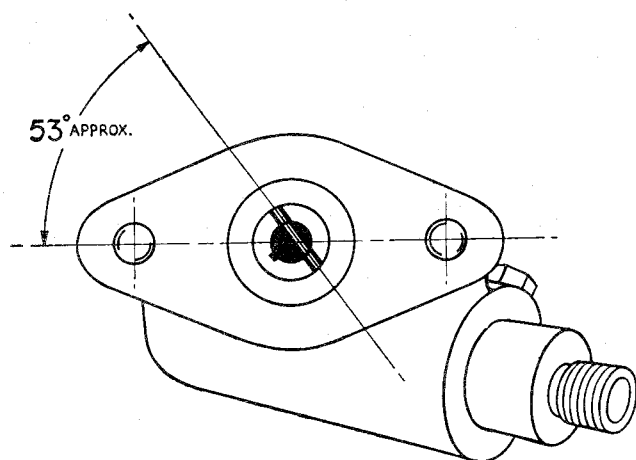

Fig. 16 Position of Slot in Distributor Boss when No. 1 cylinder is at T.D.C. on compression stroke.
- (b) When refitting the oil pump and distributor driving helical gear, ensure that No. 1 piston is at T.D.C. on the compression stroke. In this position the correct engagement of the helical gear should allow the Woodruff key to be positioned towards the front of the engine, pointing approximately towards the dipstick (Fig. 16). It may be found that the oil pump shaft will not engage with the pump for the tongue and slot of these components are out of line. The engine will need to be turned over slowly until the shaft engages with the pump. Continue to turn the engine until the offset slot in the distributor drive boss attains the position as illustrated in Fig. 16. Disengage the helical gear and remove it from the housing. Turn the engine over until No. 1 piston attains the T.D.C. position on the compression stroke and replace the